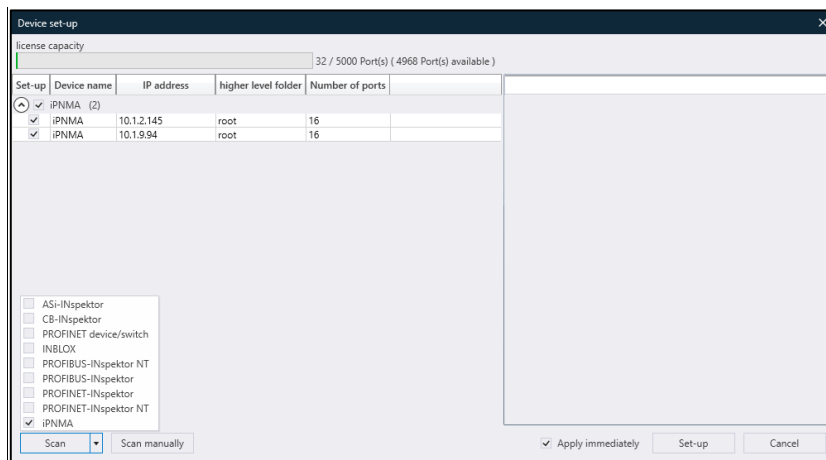

Figure 8: PROmanage NT, scanning and setting up iPNMA
- For the automatic scan, select the one by iPNMA and start the scan (see figure 8).